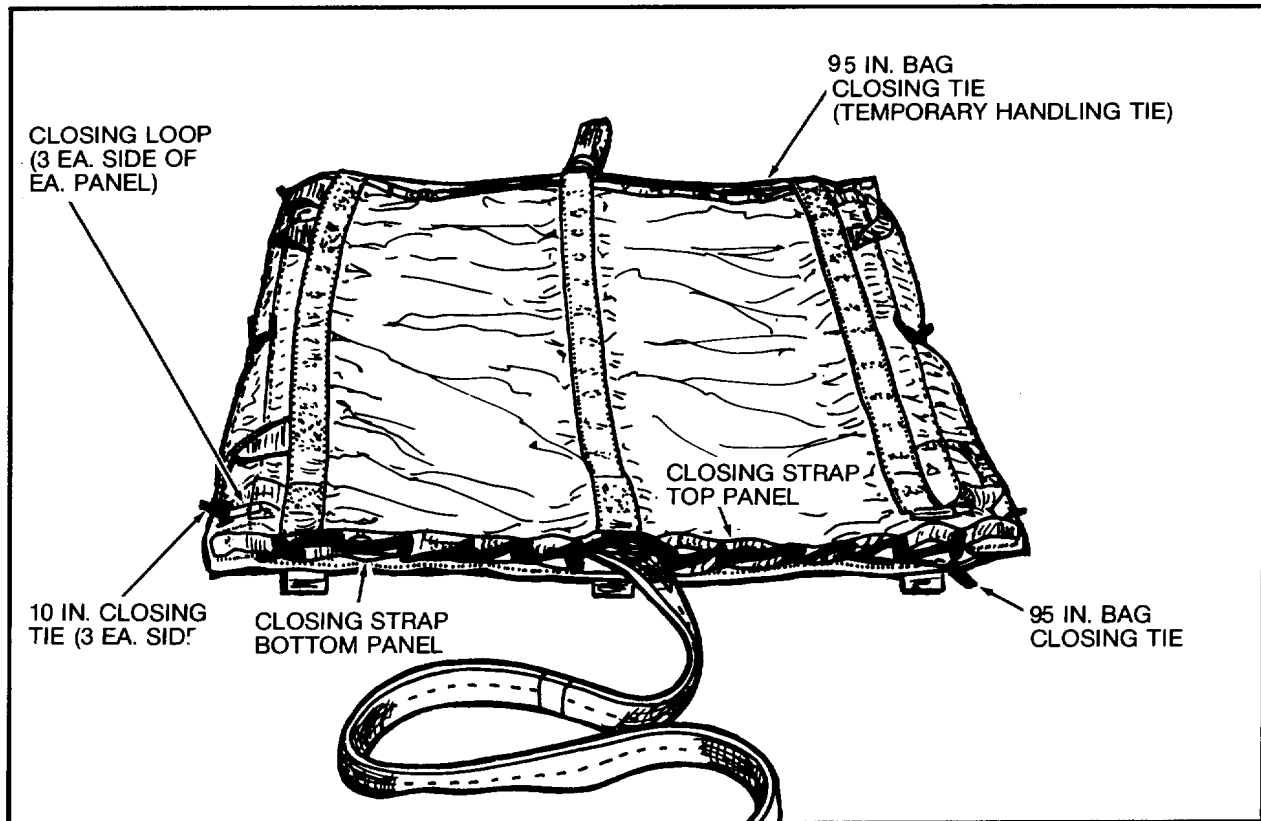

Figure 7. Extraction Line Bag Closed.
- c. Beginning at lower left corner of panel, secure one end of 95-inch nylon webbing bag closing tie to lacing loops located on outside corner of top and bottom panels with three alternating half-hitches and an overhand knot in the running end (figure 7).